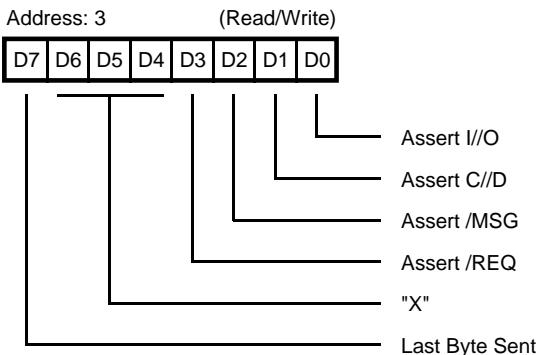

Figure 11. Target Command Register
**Bit 2. Monitor Busy.** The Monitor Busy bit, when True (1), causes an interrupt to be generated for an unexpected loss of /BSY. When the interrupt is generated due to loss of /BSY, the lower six bits of the Initiator Command Register are reset (0) and all signals are removed from the SCSI Bus.
**Bit 3. Enable/EOP interrupt.** The enable /EOP interrupt, when set (1), causes an interrupt to occur when the /EOP (End of Process) signal is received from the DMA controller logic.
**Bit 4. Enable Parity Interrupt.** The Enable Parity Interrupt bit, when set (1), will cause an interrupt (IRQ) to occur if a parity error is detected. A parity interrupt will only be generated if the Enable Parity Checking bit (bit 5) is also enabled (1).
**Bit 5. Enable Parity Checking.** The Enable Parity Checking bit determines whether parity errors are ignored or saved in the parity error latch. If this bit is reset (0), parity is ignored. Conversely, if this bit is set (1), parity errors are saved.
**Bit 6. Targetmode.** The Targetmode bit allows the SCSI to operate as either a SCSI Bus Initiator, bit reset (0), or as a SCSI Bus Target device, bit set (1). If the signals /ATN and /ACK are to be asserted on the SCSI Bus, the Targetmode bit must be reset (0). If the signals C//D, I//O, /MSG, and /REQ are to be asserted on the SCSI Bus, the Targetmode bit must be set (1).
**Target Command Register.** Address 3(Read/Write). When connected as a target device, the Target Command Register (Figure 11) allows the CPU to control the SCSI Bus Information Transfer phase and/or to assert /REQ by writing this register. The Targetmode bit (Mode Register, bit 6) must be True (1) for bus assertion to occur. The SCSI Bus phases are described in Table 2.